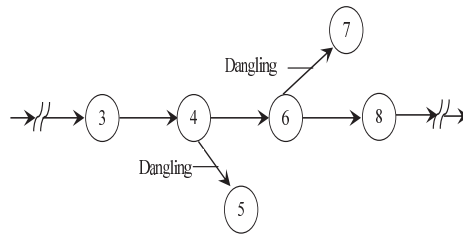

Fig. 1.5: Dangling error
1. **Dangling** - If an activity is disconnected before completion of all activities in a network diagram then such an error is called dangling error. As shown in figure 1.5, activities (4-5) and (6-7) are not the last activities in the network. So the diagram is wrong and indicates the error of dangling.